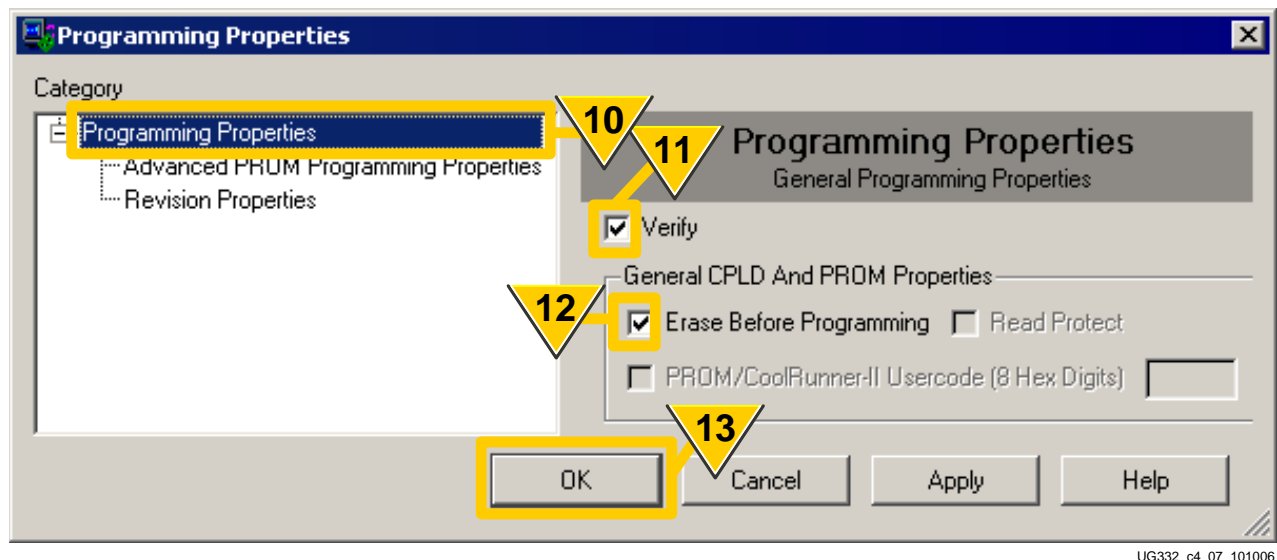

Figure 4-20: SPI PROM Programming Options
10. Click the **Programming Properties** option under **Category**, as shown in Figure 4-20.